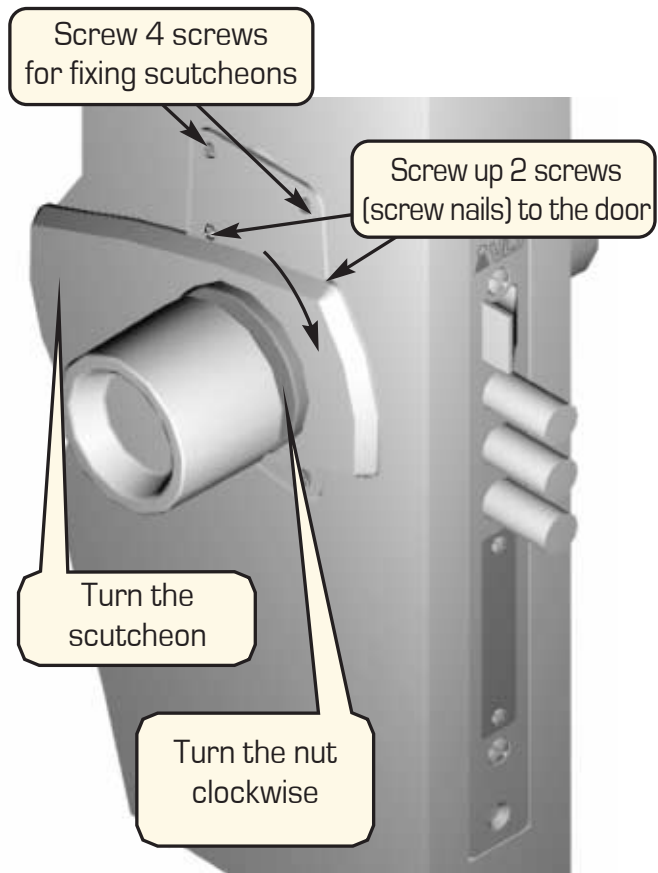

Figure 15 – Installation of the inner handle with scutcheon
**25.** By turning the round nut from the inner side of the lock clockwise up to the stop, fix the scutcheon (fig. 15).